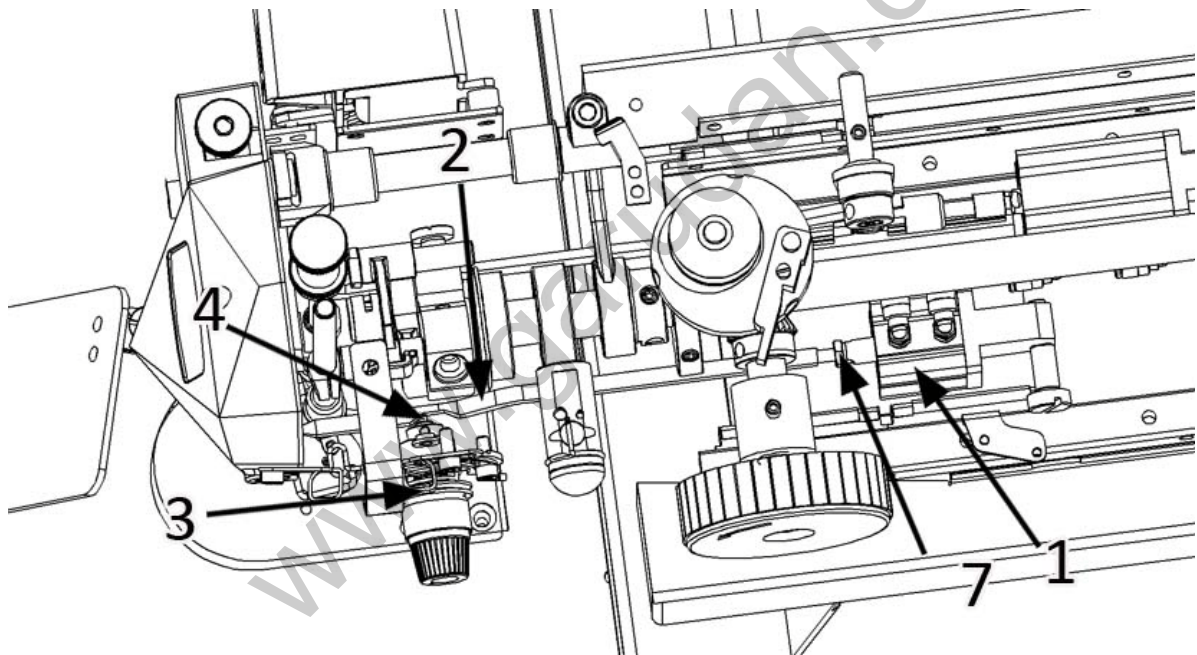

Fig. 31
Opening of plates (3) of main tensioner is actuated by pneumatic valve (1) which is connected with rod (2), Fig. 31. This valve is controlled by parameter 16. This parameter indicates the position of the needle when the plate is opened. These plates are opened at last trimming movement. It ensures sufficient length of upper thread after trimming so that the first stitch with next sewing operation is done properly and there is no risk of removal of the thread.